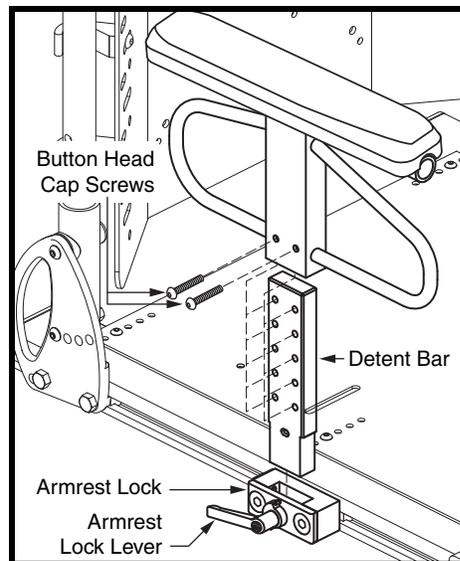

Figure 23. Heavy Duty Drop-In Armrest Height Adjustment
1. Rotate the armrest lock lever rearward and remove the armrest from the armrest lock. See **figure 23**.
2. Remove the two (2) button head cap screws from the side of the armrest.